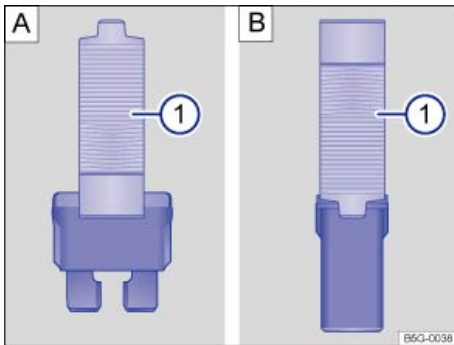

Fig. 187 Removing or installing a blade fuse with the plastic tweezers: A: Blade fuse. B: JCASE® fuse.
- Depending on the type of fuse, slide the tweezers ⇒ fig. 187 A \(1\) or B \(1\) onto the fuse from the side.